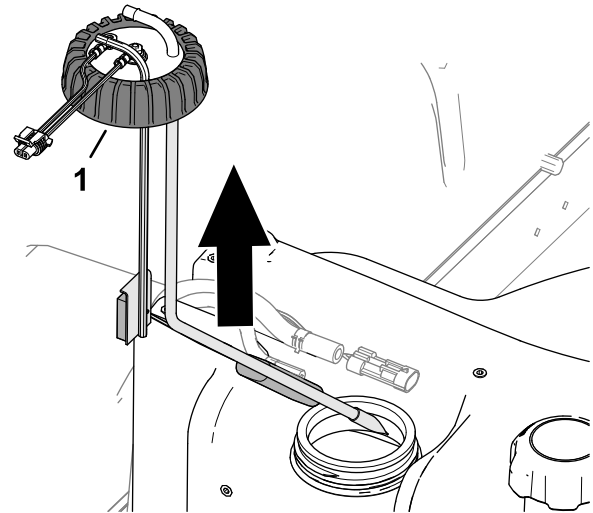

Figure 88
5. Loosen the fuel-sender cap (Figure 88).